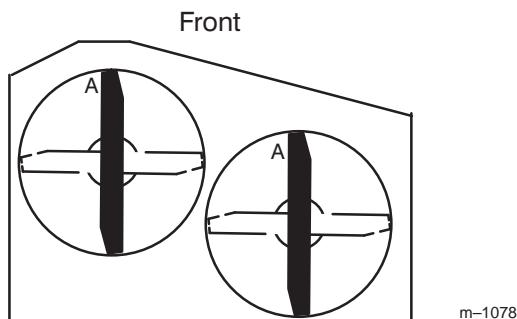

Figure 39
1. Rotate the blades until the ends face forward and backward (Fig. 39). Measure from a level surface to the cutting edge, position "A", of the blades (Fig. 40). Note this dimension.